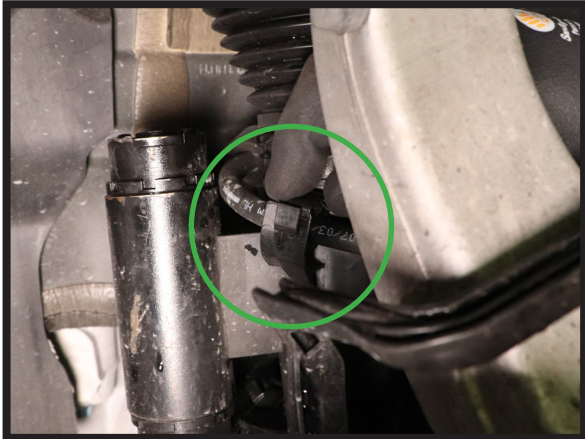

FIGURE 11
10. UNCLIP AND UNROUTE ALL BRAKE/AIR LINES SURROUNDING THE STRUT FOR REMOVAL. (FIGURES 11, 12)